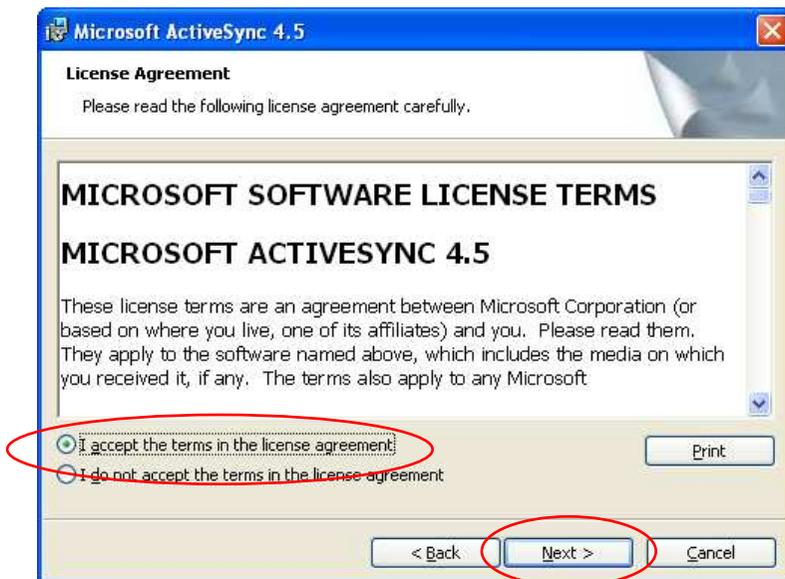

Figure 93:
7. Read and accept the licence agreement then select 'Next' (Figure 93).